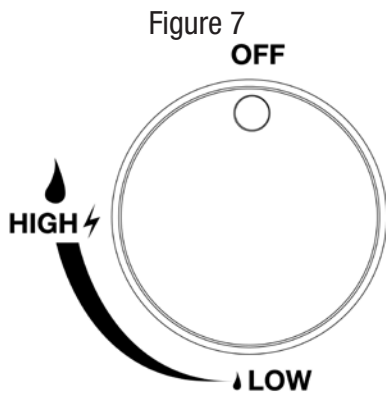

Figure 8
8. If igniter does not light burner, use a lit match secured with the lighting rod provided to light burners manually. Position the lit match near side of the burner. (Figure 8)